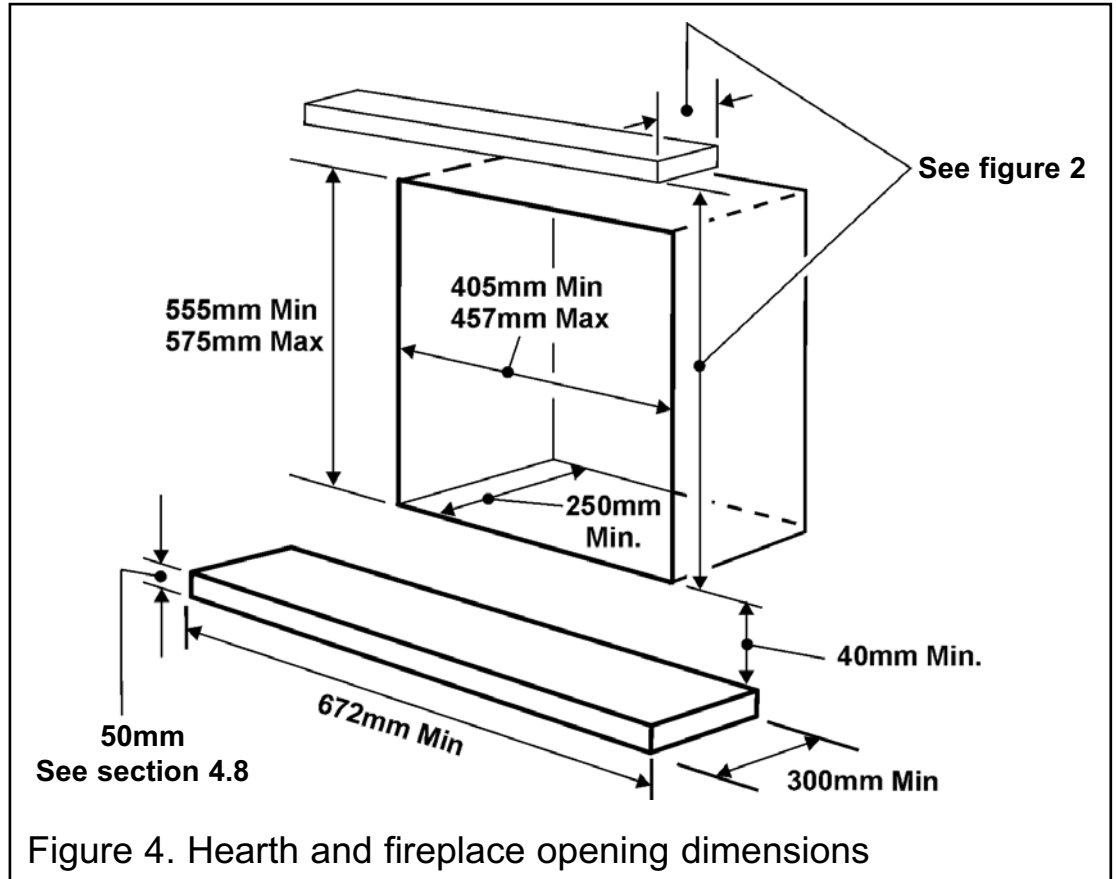
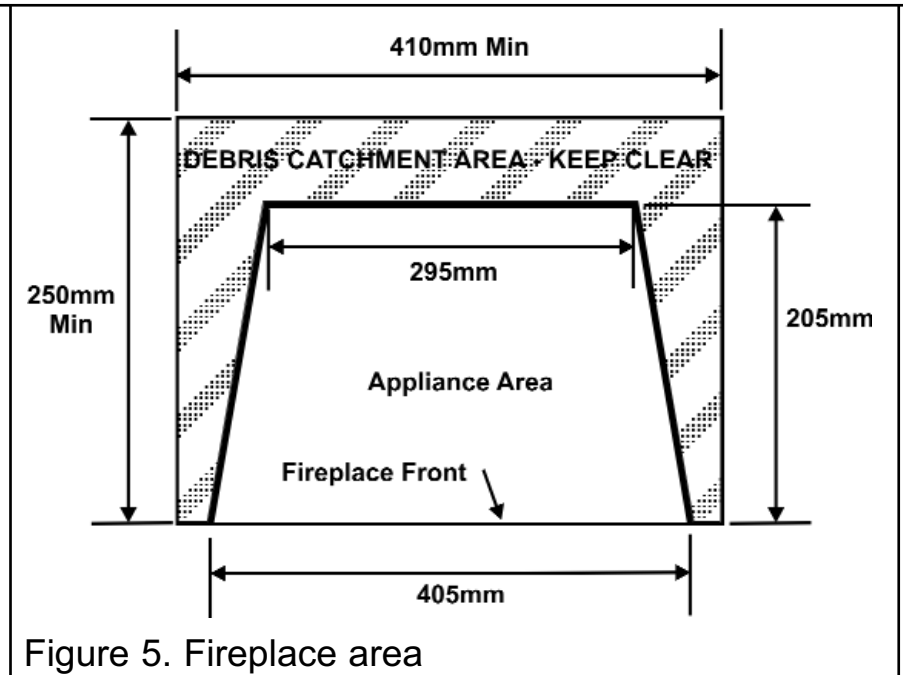

Figure 4. Hearth and fireplace opening dimensions
Figure 5. Fireplace area
To a fireplace complete with surround and hearth as shown in figure 4 and complying with BS1251 after removal of the fireback and sufficient material behind the fireback for a debris catchment space. The required fireplace, hearth, debris catchment area and clearance dimensions are shown in figure 5.
- It is recommended that a hearth should be installed as in figure 4. If a hearth is not fitted, the fire must be installed so that the distance from the base of the fireplace opening in the wall to the finished floor level is at least 25mm. Where there is no floor covering or carpet and the floor is of a type that is likely to be covered in such a way then the distance from the base of the fireplace opening in the wall to the finished floor level should be increased to at least 100mm.
The fireplace must comply with the requirements described in section 4.10. This will probably entail removing the fireback and infill material behind the fireback. The debris catchment area shown in figure 5 must be kept clear of obstructions.